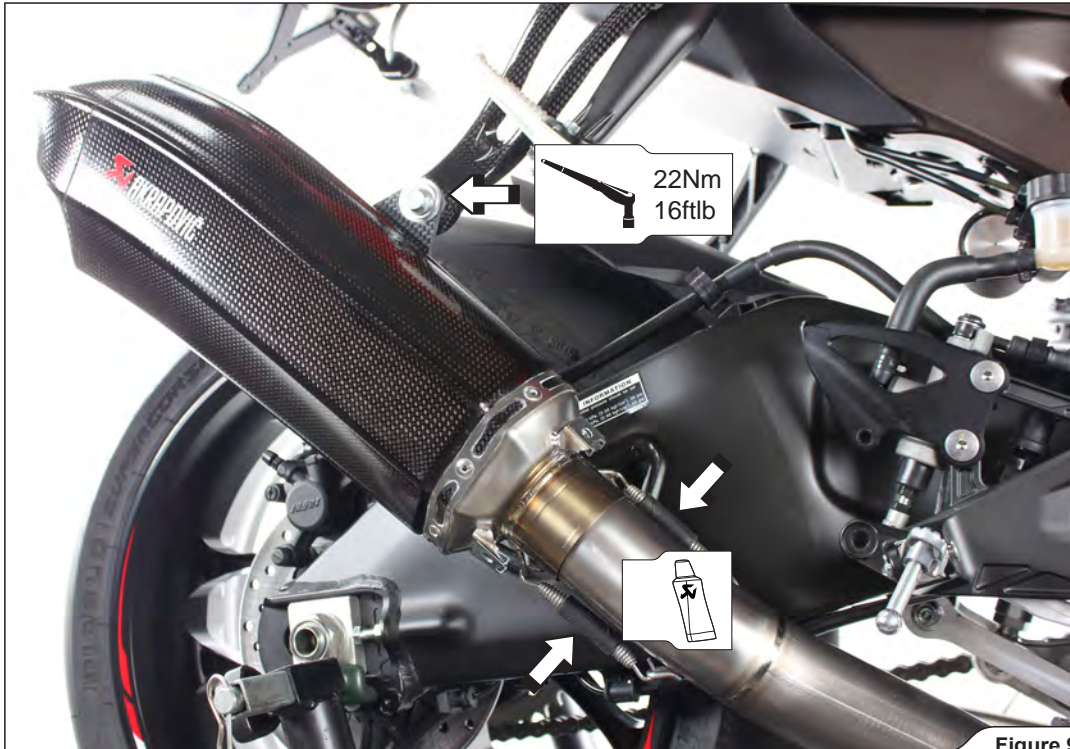

Figure 9
5. Position the muffler correctly and slide it onto the outlet of the link pipe. Align the muffler in respect to the motorcycle and tighten the muffler bracket to the carbon fibre bracket using bolt, washers and nut from Akrapovič installation kit. Fix the muffler connection to the link pipe by adding Akrapovič springs, as shown (Figure 9).